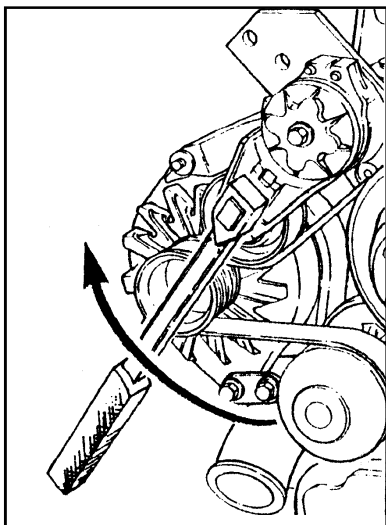
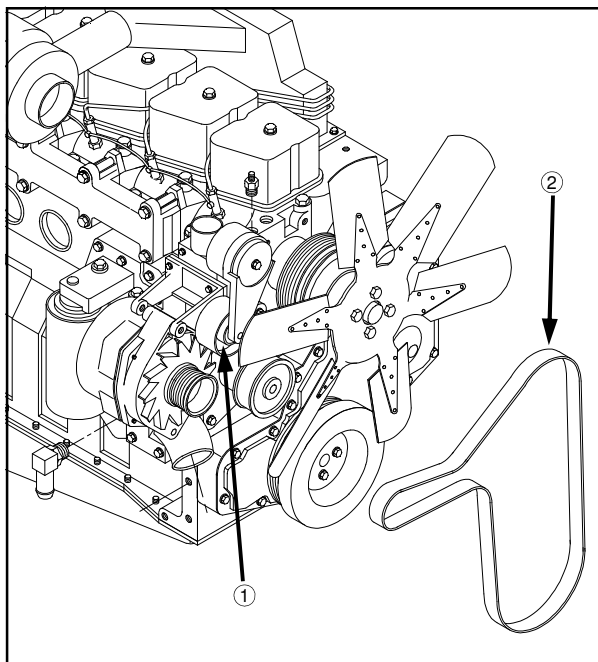

FIG 8.44
FIG 8.45
REMOVAL - Insert a 3/8 inch square ratchet drive (fig. 8.44) into the belt tensioner (8.45, item 1) and lift upward to remove the belt (fig. 8.45, item 2).